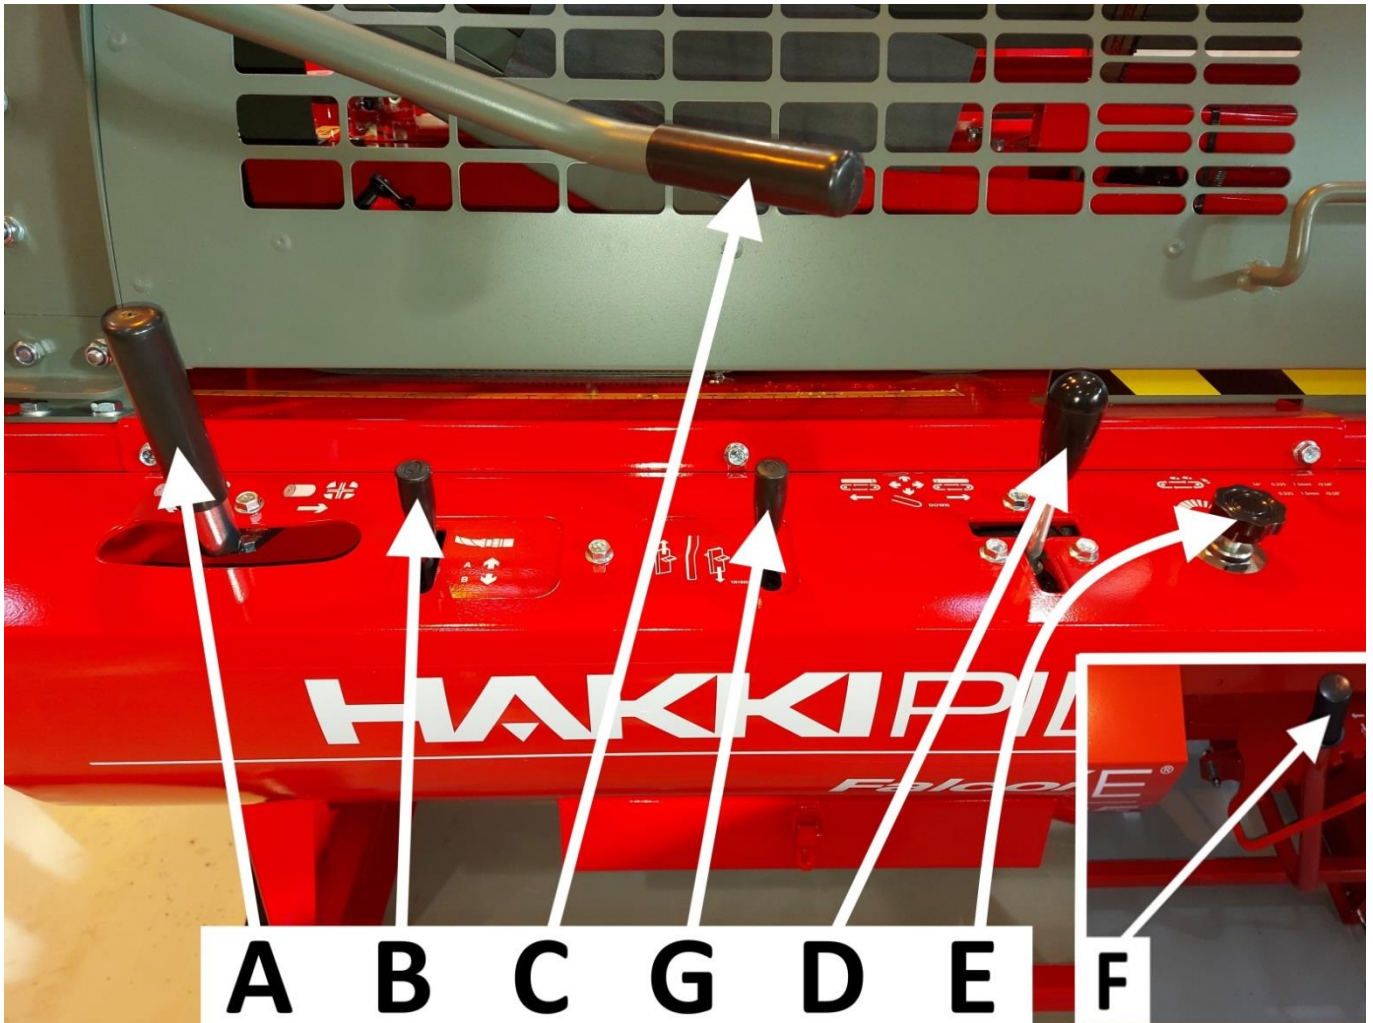

Figure 11
Connect the additional hydraulics (HakkiLift log lifter or HakkiFeed log table separator) by inserting the hydraulic hoses of the accessory into quick couplings **A** (red) and **B** (black) (Figure 9). Use the quick couplings with control lever **B** (Figure 11).
Hydraulic in-feed rollers and HakkiFeed log tables can be connected in series with the machine's in-feed conveyor. In this case, the in-feed rollers function automatically in synchronisation with the in-feed conveyor when logs are being fed in with lever **D** (Figure 11).
Names and functions of the controls (Figure 11):
6. Activate the machine's splitting motion by lowering the saw bar fully into the lower position and lifting it back up using lever D (Figure 11). The splitting motion must be normal. The splitting motion can also be activated by pulling lever A to the right (Figure 11).
- a. Use lever D (Figure 11) to perform a few sawing motions without any actual logs.
8. Ensure that the saw chain starts running when you lower the saw bar by about 2 cm using lever D (Figure 11).
10. Ensure that the splitting blade returns to the initial position (in the middle of the splitting motion) also by pushing lever A (Figure 11) to the left.
11. Test run the feed and return motion of the in-feed conveyor using lever D (Figure 11) by pushing the lever to the upper right (belt runs to the right) and upper left (belt runs to the left).
12. Start the out-feed conveyor by using control E (Figure 11) to adjust the speed to an appropriate level for the conveyor.
The in-feed conveyor feeds the wood to be processed into the machine. Feed wood into the machine using control lever D in Figure 11 of Section 3.1.
3. Once the log stops for cutting in the mechanical measuring device, lock the log in place with the wood press by pressing handle C of the press (Figure 11) downward.
4. Cut the log by pulling lever D back, which activates the saw chain and lowers the saw bar (Figure 11).
5. Return the saw bar to the raised position by pushing lever D (Figure 11) forward, **which automatically activates the splitting function.**
When sawing wood, the second to last piece should be sawn in such a way that the remaining piece is of a sufficient length. This ensures that the log will stay firmly under the log press and that the sawing will be steady and safe. Drive the last piece of wood directly into the splitting section, and start the splitting process with control lever A or lever E (Figure 11).
The splitting beam performs the splitting motion automatically whenever the saw bar is lowered all the way down using lever E (Figure 11) and raised back up again. In other words, the splitting motion starts automatically when the log is dropped into the splitting groove after cutting and the saw bar is lifted back up.
In addition to this, control lever A (Figure 11) can be used to activate the splitting by pushing the lever briskly to the right and returning it to the initial position. This function is useful, for example, when the last log to be split has been driven into the splitting groove. In this way, the operator does not have to unnecessarily move the saw bar into the lower position. Instead, the splitting function can be activated much faster using this lever.
The machine's splitting motion can be interrupted by pushing control lever A to the left (Figure 11). **The splitting can also be halted by raising the machine's guard when the saw bar is in the upper position.**
4. Activate the splitting using lever A (Figure 11).
The belt of the Hakki Pilke Falcon firewood processor's out-feed conveyor is driven by a hydraulic motor. To change the speed of the belt, use adjuster F (Figure 11). The optimal speed for the cleaning out-feed conveyor belt can be determined by trying different settings. The split logs should only just pass over the plate. The separation plate can be adjusted with adjustment screws B in Figure 25.